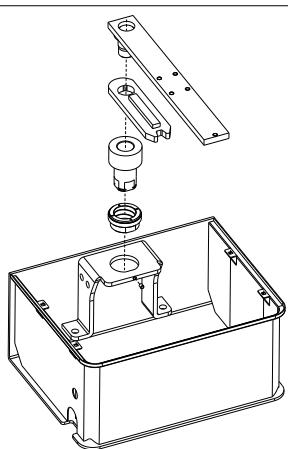

Fig. 8
- 2.4. introduce the buckle of creeping in the box and fix it with the special screws (Fig. 8).
- 2.5. Insert the units as in Fig. 8.